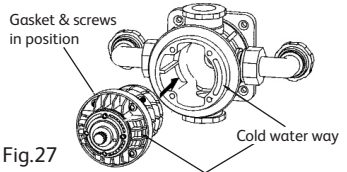

Fig.27
14. Offer the cartridge up to the body after checking that the waterway in the rear of the cartridge is in alignment with the waterway, which is situated in the face of the body (Fig 27).